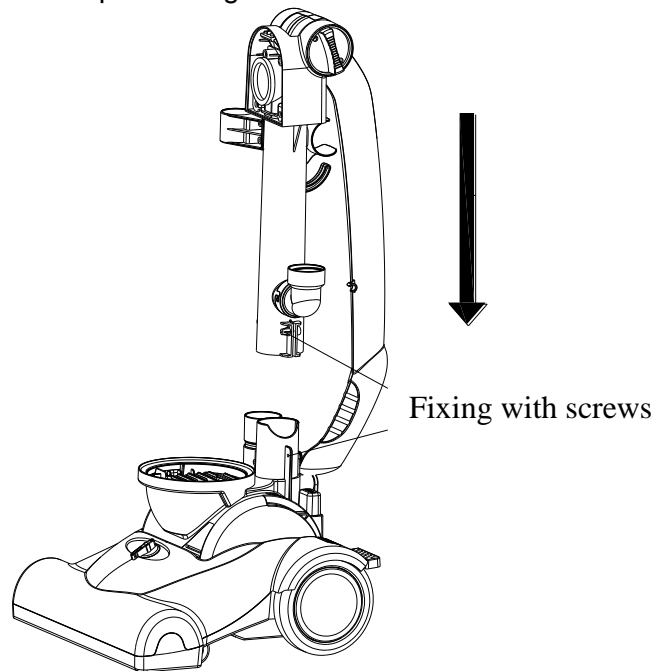

Fig. 1
- i. Insert vertically the assembly of the handle in the end port of the upper cover of motor, and fasten it with screws (see Fig.1).